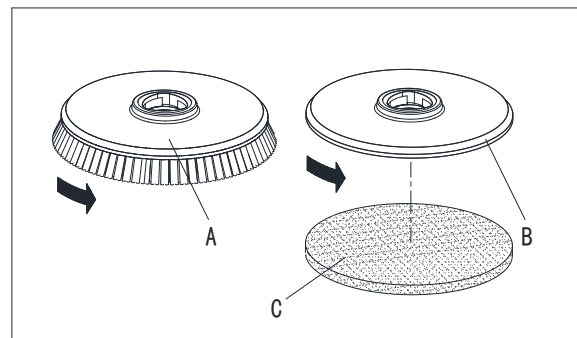

Figure 4
Install either the brush (A, Figure 4) or pad-holder (B and C, Figure 4) according to the type of floor to be cleaned.
1. Insert the ignition key (54) and turn it to "O".
2. Lift the deck by pressing the pedal (10).
3. If equipped, turn the speed adjuster (56) to idle by turning it counter-clockwise.
4. Place the brushes (A, Figure. 4) or the pad-holder (B) under the deck (21).
5. Lower the deck on the brushes/pad-holders by pressing the pedal (10).
6. Turn the ignition key (54) to "I".
7. Press the Brush/pad-holder and vacuum system switch (60).
8. Press one of the safe switch (50) to engage the brush/pad-holder, then release it. If necessary, repeat the procedure until the brushes/pad-holders are engaged.